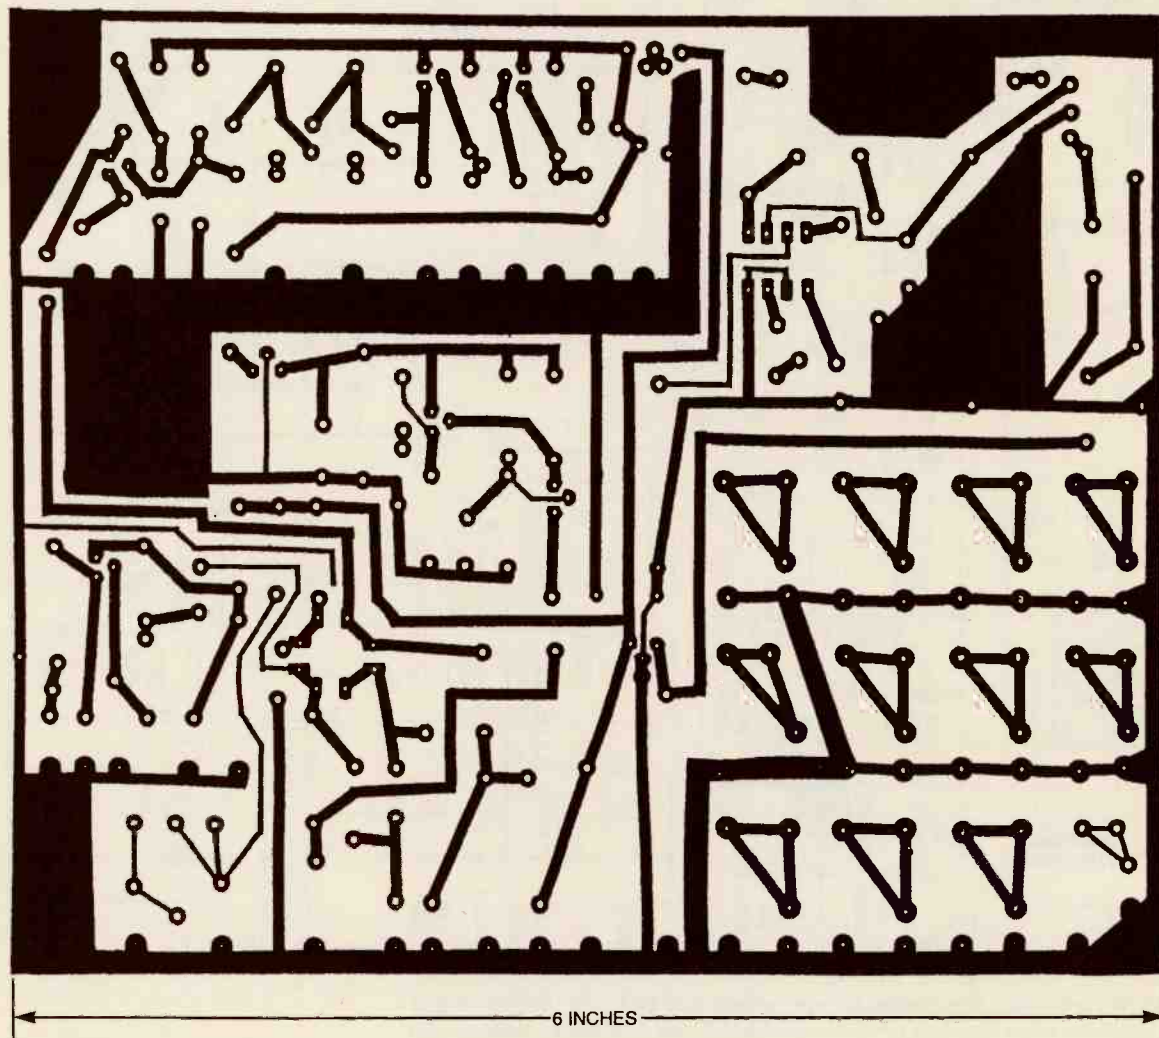

Fig. 4. This full-sized printed-circuit template can be used to etched your own board.
**Construction.** Except for the power supply, the controls, the connectors, and the internal speaker, the entire circuit was assembled a 5- × 6-inch, single-sided, printed-circuit board. A template for the printed-circuit layout is shown in Fig. 4. Once you have etched your board and obtained the parts listed in the Parts List, construction can begin.